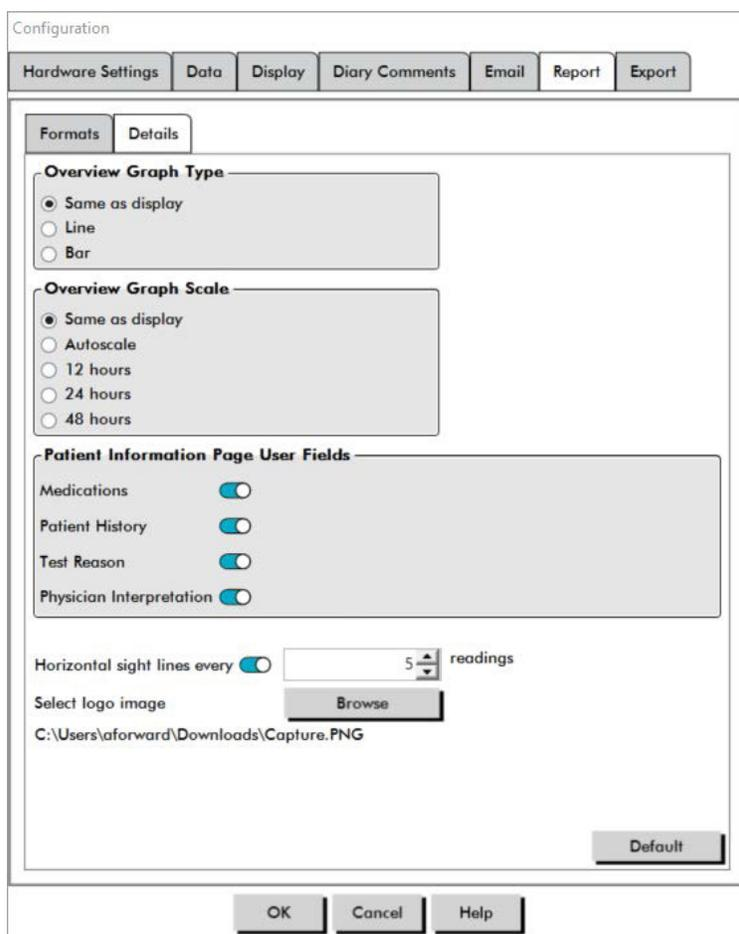

Figure 27: Configuration Window, Report Details
5. Select either a single-page or multi-page view for the **Print Preview** window on the **Details** tab (Figure 27).
To configure report details (Figure 27):